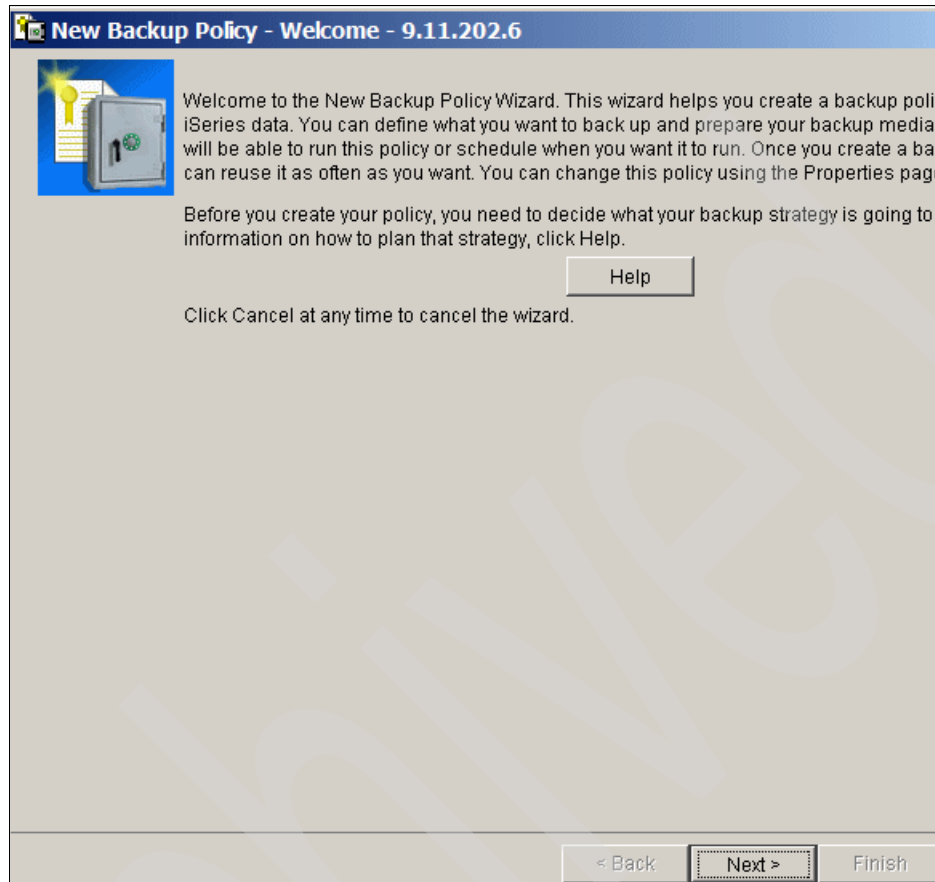

Figure 6-14 *New Backup Policy wizard - welcome window*
3. This presents a *New Backup Policy* wizard, as can be seen in Figure 6-14. On the first wizard welcome window, click **Next**.